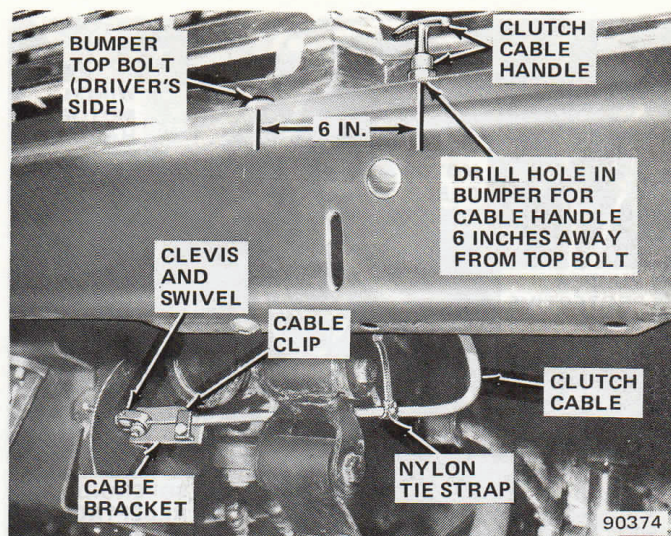

Fig. 5-19 Clutch Cable Installation
(18) Install clutch cable in front bumper (fig. 5-19). Drill 1/2-inch diameter hole in flat surface at top of bumper. Locate hole 6 inches to right of top bolt on driver side of bumper (fig. 5-19).
(19) Install flat washer on clutch cable and insert cable into hole drilled in bumper. Attach cable handle to bumper using lockwasher and nut.
(20) Route clutch cable behind front spring shackle (fig. 5-19). Install cable swivel in clevis and insert cable end through clevis and swivel. Bend cable end 90° and tighten swivel setscrew to retain cable.
(21) Clamp cable to clutch cable bracket using cable clip. Attach cable clip to bracket using 1/4 x 1 bolt,
lockwasher and nut (fig. 5-19). Tighten bolt to 10 foot-pounds (14 N•m) torque.
(22) Install nylon tie strap retainer on cable. Attach strap to cable and hole at rear of front spring shackle bracket (fig. 5-19).